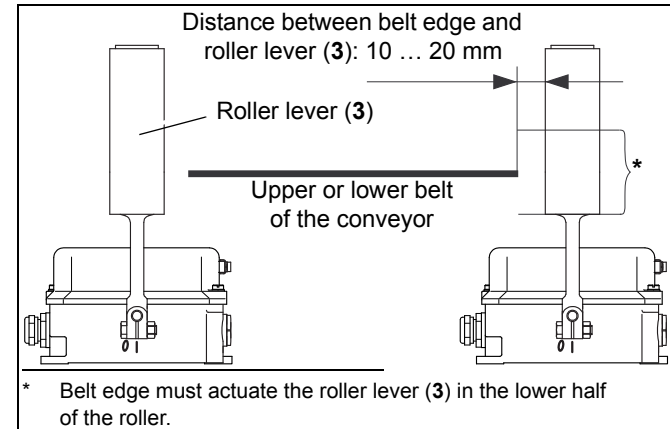

Fig. 5-2: Mounting paired belt misalignment switches on the conveyor
Make sure to mount the belt misalignment switch so that the belt edge actuates the roller lever (3) in the lower half of the roller when the belt deviates from its designed running line. This prevents the belt from sliding over the roller lever (3) (see fig. 5-2).
Belt misalignment switches are mounted in pairs on the upper belt in front of the drive roller, on the lower belt in front of the deflection roller and also at critical points where the axis distances are larger or material is transferred (see fig. 5-2).
In order to minimize roller lever (3) wear, mount the roller lever (3) in such a way that it is located approximately 10 to 20 mm in front of the belt edge (see figures 5-2 and 5-5).
- Fit the roller lever (3) onto the shaft (14).